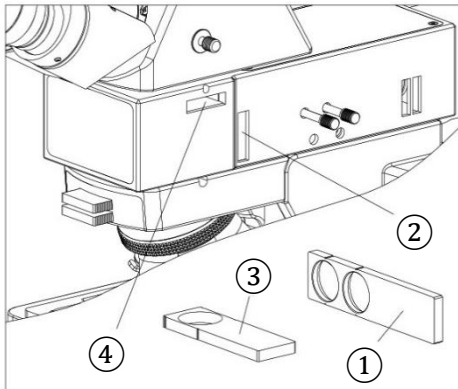

Fig. 24
To adjust the limit block for various specimen requirements, loosen the lock screw ② on the limit block ③, then move the limit block according to the direction shown in Fig. 24 and tighten the lock screw when adjusted to the appropriate position.
Insert the analyzer into the analyzer slot (4) (Fig. 24).